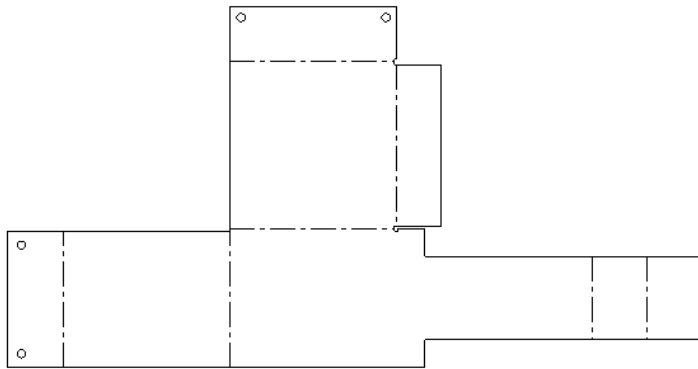

Figure 16-153 Flatten sheet metal component
- Create the flat pattern of the sheet metal component, refer to Figure 16-153.
The flatten sheet metal component is displayed in Figure 16-153.